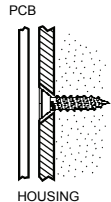

Figure B.4: Mounting Screw Position
9. Mount the back cover using two screws and replace the PCB. Use ISO 7050 (ST3.5 x 22) or similar countersunk screws so that the screw head will not touch the PCB – see Figure B.4.
10. Mount the back cover to the wall using two screws and replace the PCB. Use ISO 7050 (ST3.5 x 22) or similar countersunk screws so that the screw head will not touch the PCB – see *Figure B.4*.